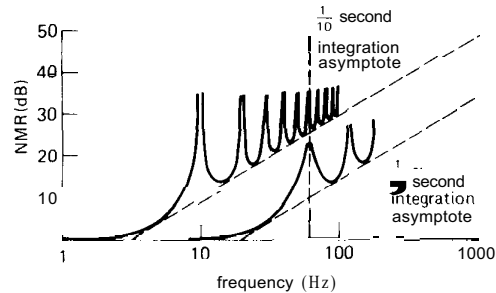

Figure 9.55. Normal-mode rejection with integrating A/D converters.
2. The output is proportional to the average input voltage over the (fixed) integration time. By choosing that time interval to be a multiple of the power-line period, the converter becomes insensitive to 60Hz "hum" (and its harmonics) on the input signal. As a result, the sensitivity to interfering signals as a function of frequency is as shown in Figure 9.55 (0.1s integration).